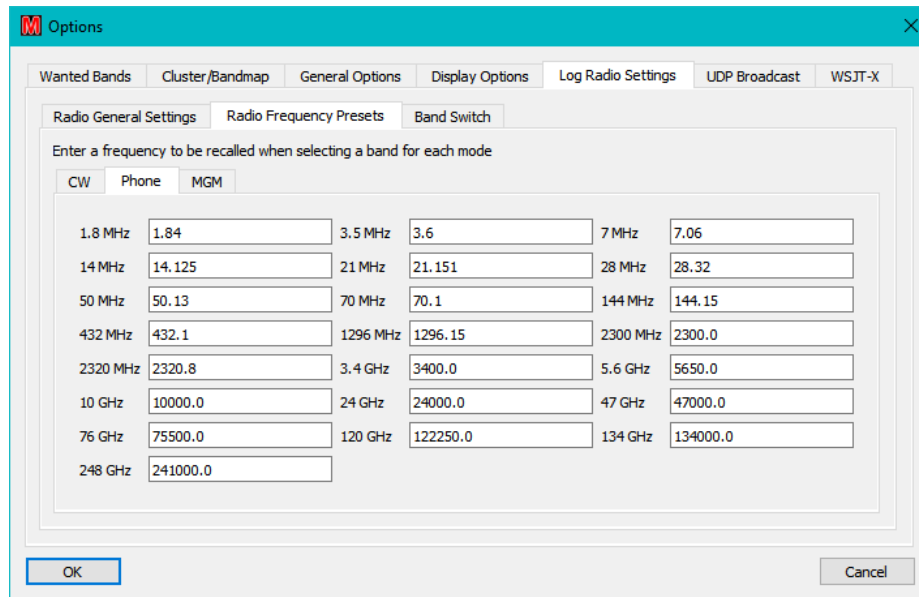
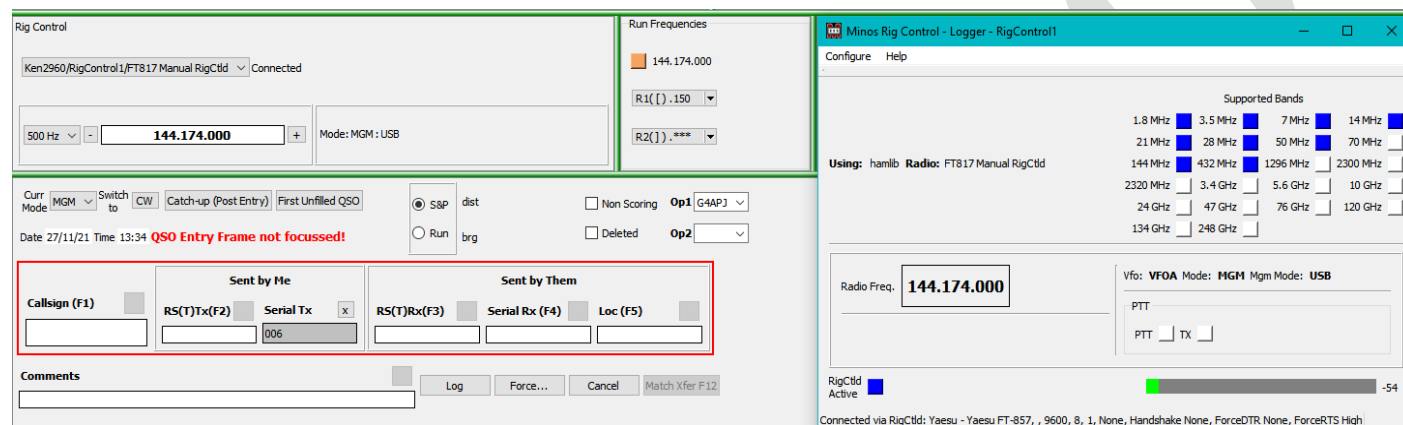
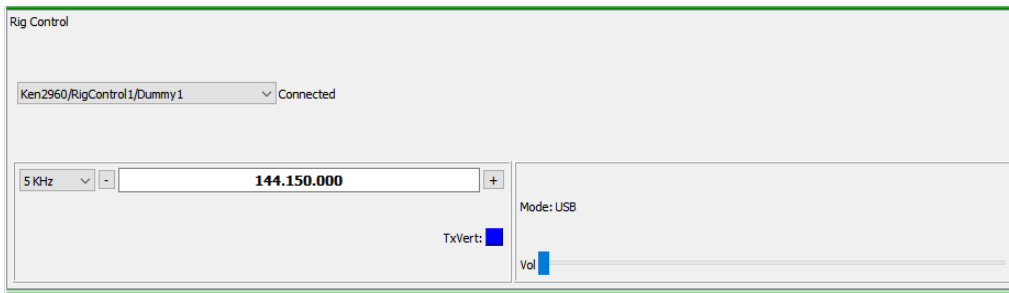

Figure 84 – Setup Band Frequency
Figure 86 – RigControl connected to Logger
Figure 89 – RigControl panel within Logger
The ‘**Radio Name**’ field is used within a contest to select (or display) which rig is currently being controlled (e.g. in Figure 86). Once defined, it may be changed using “**Edit Radio Name**” or removed (provided it is not currently active within the Logger) using the “**Remove Radio**” button.
- The ‘**Radio Frequency Presets**’ tab (Figure 84) displays the table of ‘base frequencies’ with a tab for each mode of CW/Phone/MGM. These define the frequency the rig goes to when a contest is opened or when a “**Quick Sel**” band change is made from the Rigcontrol panel of the Logger (Figure 86). The default
Once configured to operate in conjunction with the Logger a contest may utilise the rig selected within the application, and the RigControl panel becomes visible in Logger (see Figure 86). As can be seen, because the application is connected to the Logger, it shows ‘Logger’ in the title, together with the name assigned to the instance of the app being used they are using (RigControl, by default).
Within the RigControl panel (see Figure 89) on the top left is the name of the selected radio and its status which should normally be **‘Connected’** for correct operation80.
If the selected radio supports RIT (through CAT) it can be enabled through the RigControl panel (see Figure 89) and it will then become visible in the RigControl panel within Logger (see Figure 15). **Turning it on (Figure 86)** then allows incremental tuning using the mouse wheel in the same manner as for the main frequency. A specific RIT frequency can also be entered, although that is unlikely to be very useful. There are a number of shortcut keystrokes available - listed in Figure 173.